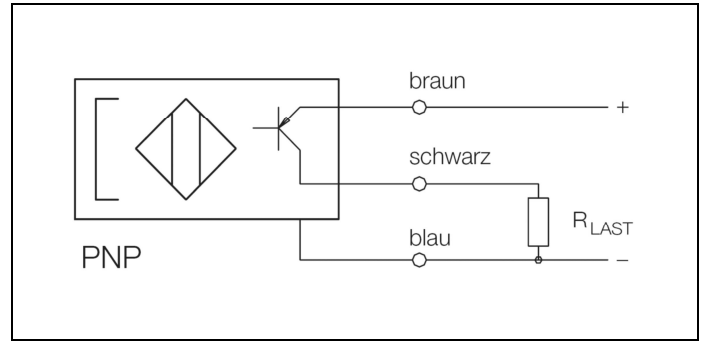

Figure 8: Circuit diagram for PNP (+) magnetic sensor
- Proceed in the same way with S2, so that a signal course as per figure 8 will be obtained.